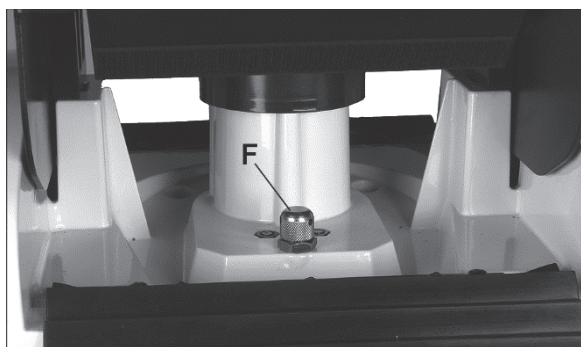

Figure 16
3. Open rear shield, and clean area around oil cap. Unscrew oil cap (F, Figure 16) by hand, and remove spring.
4. Fill reservoir until oil level is at center of sight glass (D).